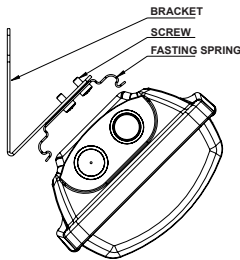

Fig. 6
- f) using a shackle – not included in the fittings (Fig. 6)